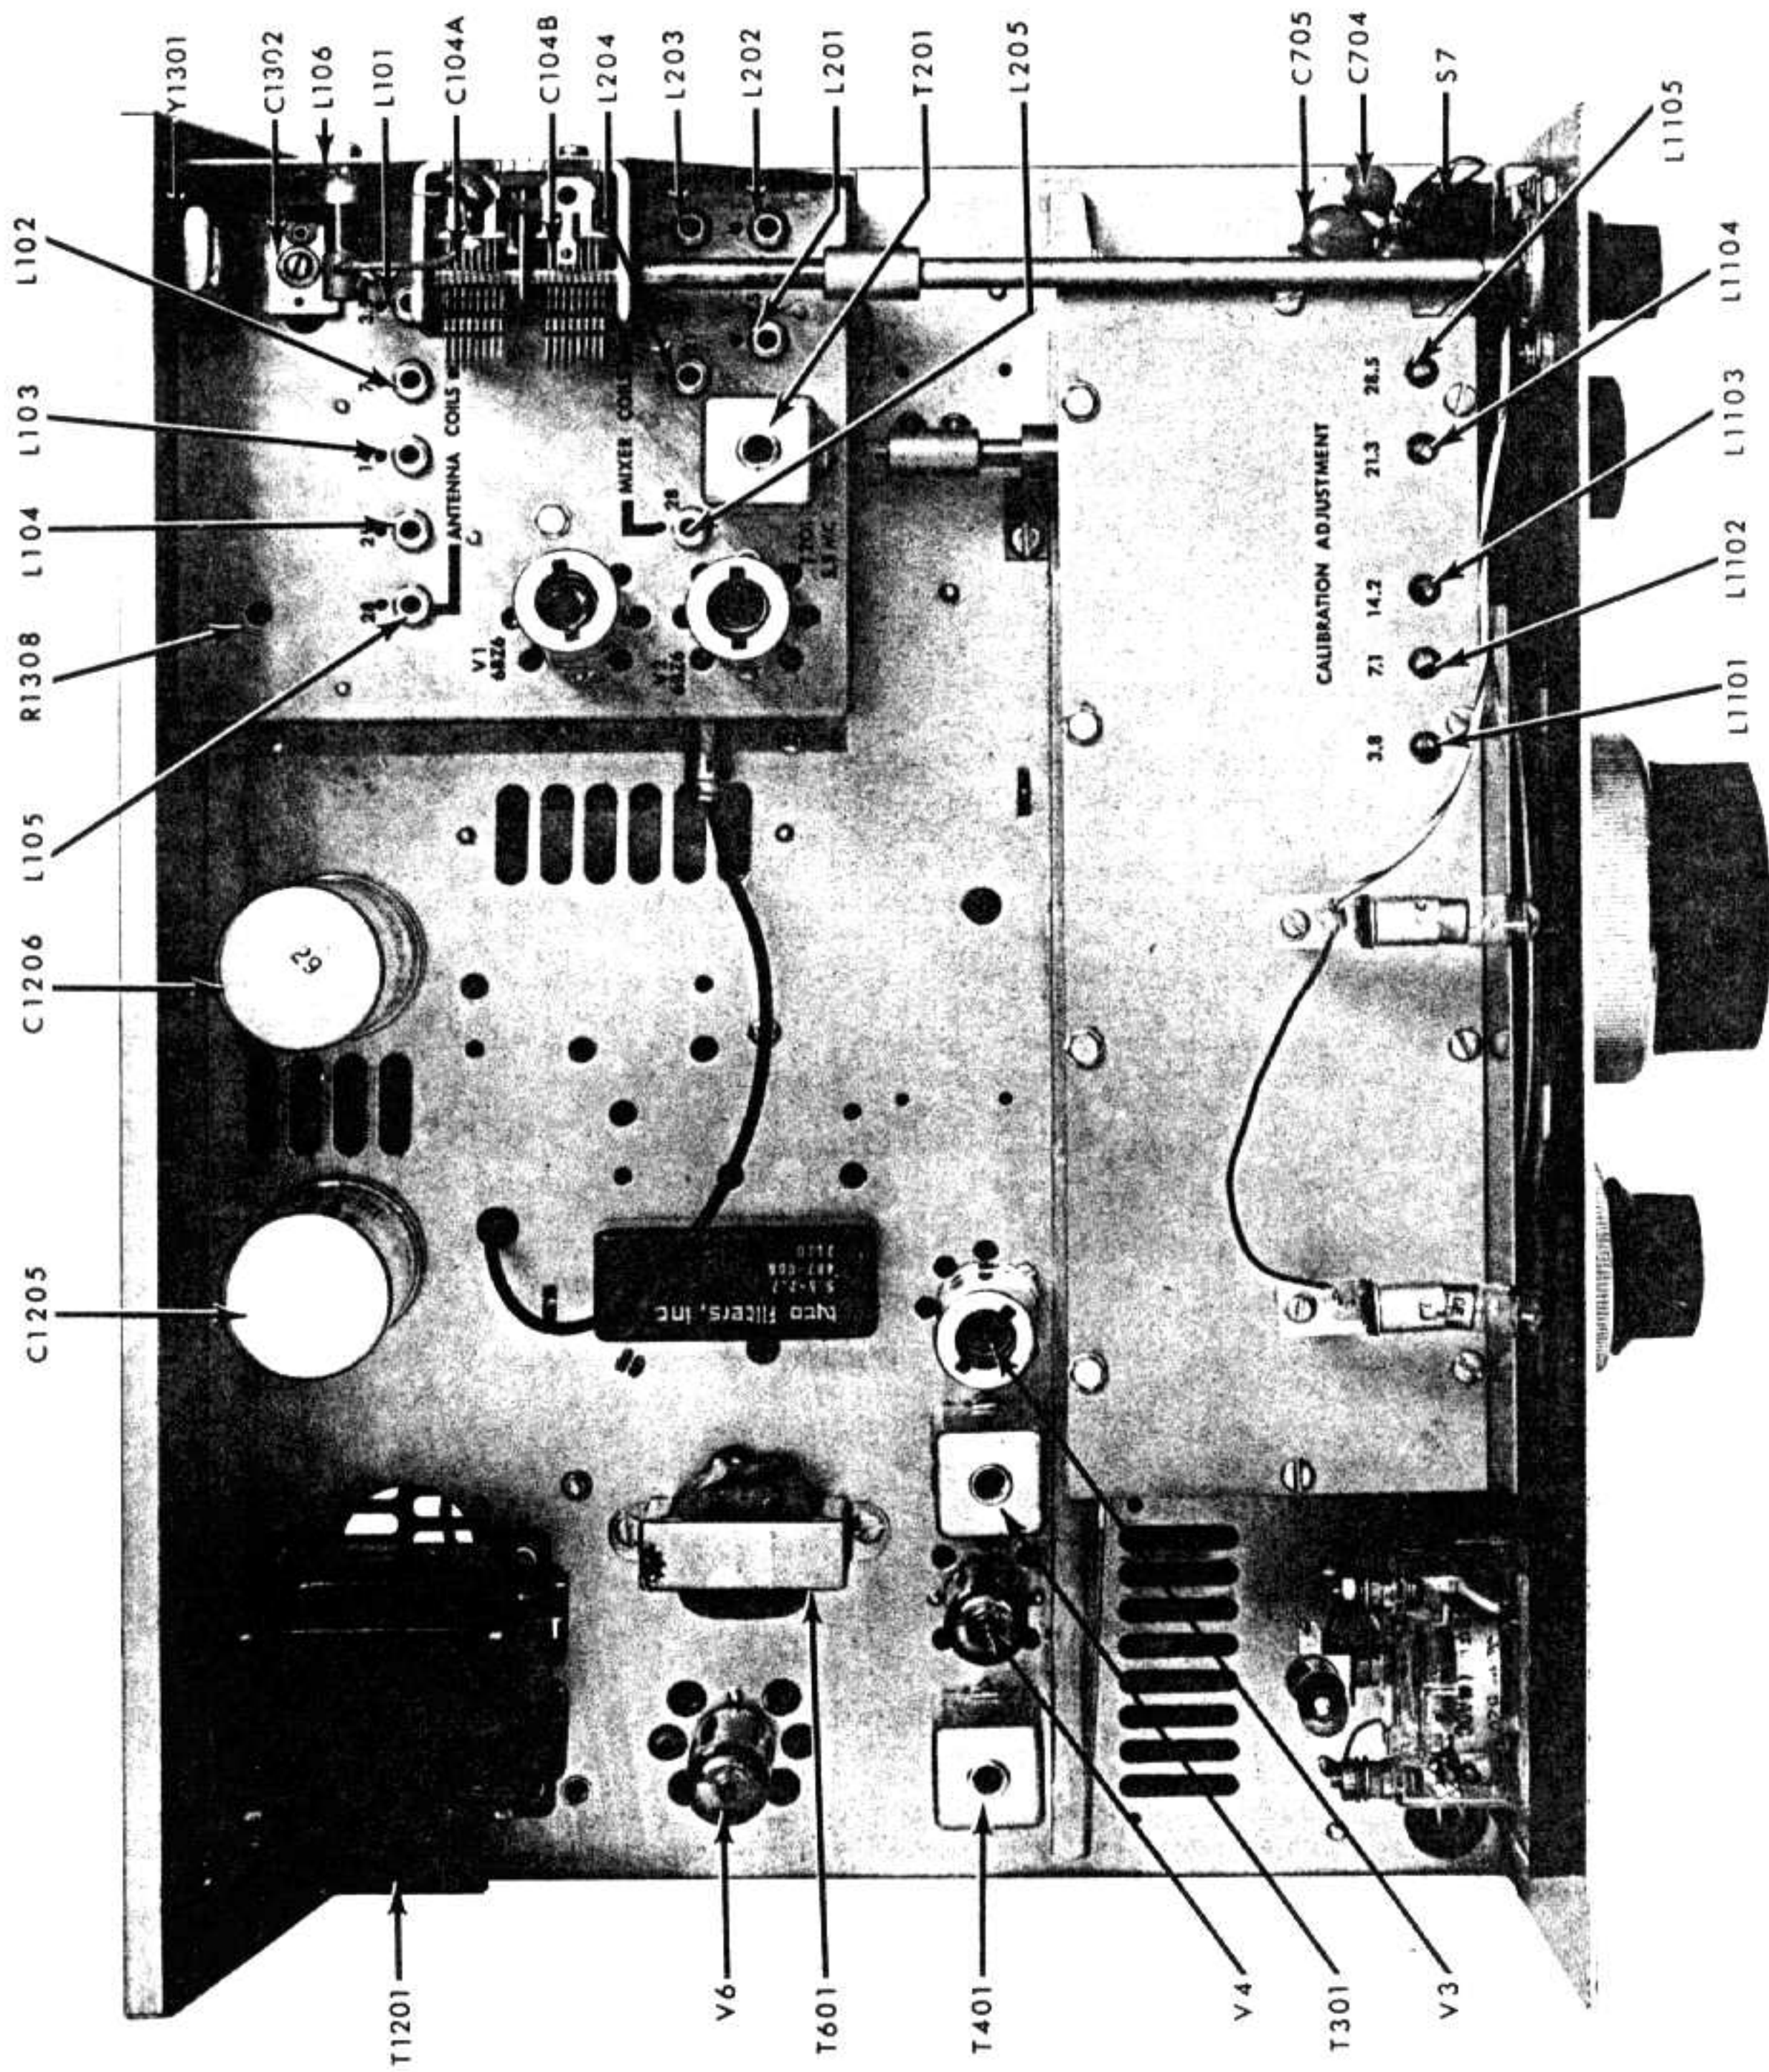

FIGURE 7. TOP VIEW OF 600-R
12. With a 50 ohm dummy load connected to the antenna input jack, or the receiving antenna connected to the jack, adjust T401, T301 and T201 for maximum noise (see Figure 7).
17. Using the chart below, adjust the antenna and Mixer coils for maximum signal. When properly adjusted, the receiver S-Meter should read approximately S7 to S9 with 10 microvolts input. When the input level is reduced to approximately 1/10 microvolt, the signal should still be audible (see Figure 7).
an external receiver that will tune to WWV. To adjust the calibrator using the 600-R/600-T/Swan Transceiver combination, tune in WWV using the procedures described under "WWV RECEPTION WITH 600-R/600-T/Swan Transceiver Combinations" in the OPERATION section. These same tuning procedures apply when using the Model 508 with the 600-R. When the Model 330 General Coverage Tuner is used, tune in WWV direct. After WWV has been tuned in, turn on the 100 kc calibrator, and if the calibrator can be heard in the speaker, adjust C1302 (see Figure 7) to zero-beat with WWV. If an external receiver is used, locate the R.F. Amplifier tube socket, V1. Wrap one end of an insulated wire lead loosely around pin 1. Connect the other end to the antenna terminal of the external receiver. Tune external receiver to zero-beat WWV. Turn on 100 kc calibrator, and by listening to it on the external receiver, adjust C1302 to zero-beat with WWV.
The calibrator circuit board has a trimmer type potentiometer which is used to adjust the multivibrator circuit so it divides the 100 KC calibrator output by a factor of 4, thus providing calibration markers every 25 kc. If markers are received every 20 kc or every 33-1/3 kc, adjustment is required. A small adjusting hole will be found on top of the R.F. tuner, directly back of V1, the R.F. Amplifier tube. Use a small insulated screwdriver, and carefully turn the trimmer control, R1308, until calibration markers are received every 25 kc (see Figure 7).
When dial calibration changes beyond the adjusting range indicated on the **DIAL SET** dial, calibration may be restored by carefully adjusting the trimmer for that range (see Figure 7).
9. Adjust L106 for minimum S-Meter reading (see Figure 7).